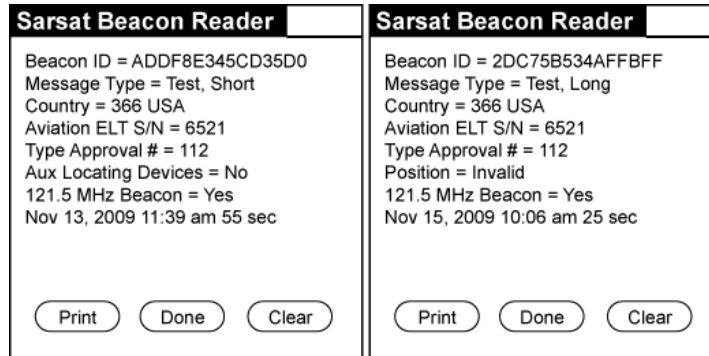

Figure 10 Short and Long 406 MHz Message Examples
- 4) Deactivate the ELT and read the test message broadcast at "turn-off". Message examples are shown in Figure 10 Short and Long 406 MHz Message Examples on page 35.
- b) The left hand example in Figure 10 Short and Long 406 MHz Message Examples is an ELT programmed for "User Protocol ELT with Serial Number", with a test Hex ID. The right hand example is an ELT programmed for "Standard Location Protocol ELT with Serial Number".
- d) If the ELT is programmed with a location (long message) protocol and disconnected from the ELT/NAV Interface -B, the message will indicate "Position Invalid" in lieu of position data, as shown in the right hand example in Figure 10 Short and Long 406 MHz Message Examples.